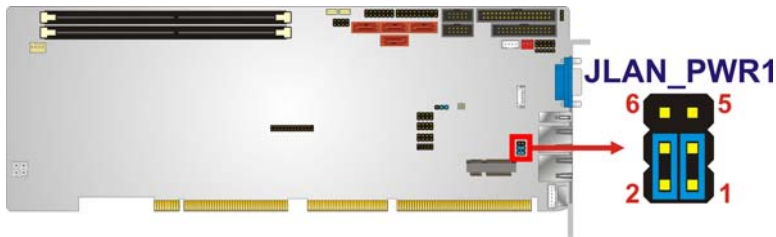

Figure 4-9: Wake-on LAN Jumper Location
- CN Location:** See **Figure 4-9**